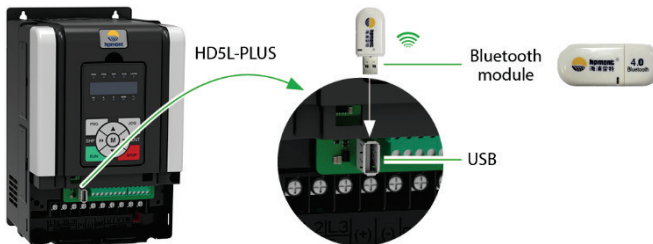

Figure 5-8 Bluetooth connection HD5L-PLUS
- Open the lower cover of HD5L-PLUS, insert the Bluetooth module (MT70-BLE-A) into the USB, see Figure 5-8.